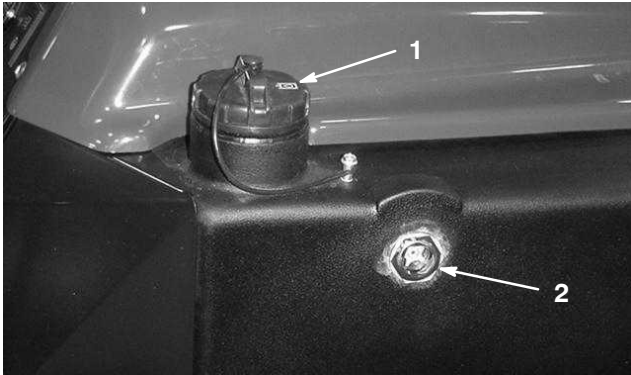

Figure 25
2. Check the fluid level by viewing it in the sight gauge (Fig. 25). If the fluid is cold, the level should be at the bottom of the gauge. If the fluid is hot, the level should be at the center of the gauge.
3. If the fluid level is not at least at the bottom of the gauge when it is cold, remove the cap from the hydraulic fluid reservoir (Fig. 25) and slowly fill the reservoir with high quality hydraulic fluid until the level in it reaches the bottom of the sight gauge. **Do not overfill.**